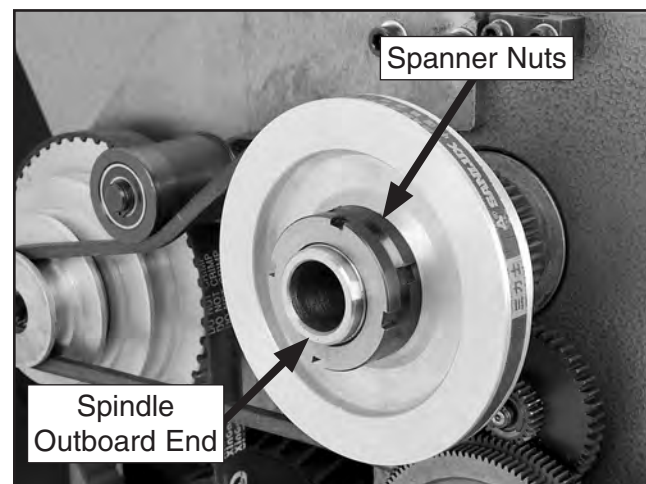

Figure 91. Outboard end of spindle and spanner nuts.
3. Remove the chuck or faceplate from the spindle, then open the change gear cover to expose the outboard end of the spindle (see **Figure 91**).
4. Insert the handle of a chuck key or similar tool in a spindle indent to keep the spindle from rotating, then remove the outer spanner nut (see **Figure 91**).